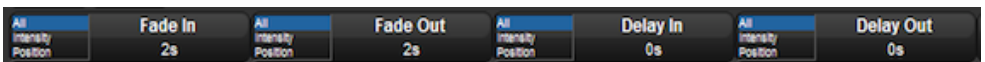

Figure 13.4. The Wheels Toolbar showing Timing
3. The Wheels Toolbar will show the available timing types (Fade In, Fade Out, Delay In and Delay Out) together with their current settings; see *Figure 13.4, “The Wheels Toolbar showing Timing”*.